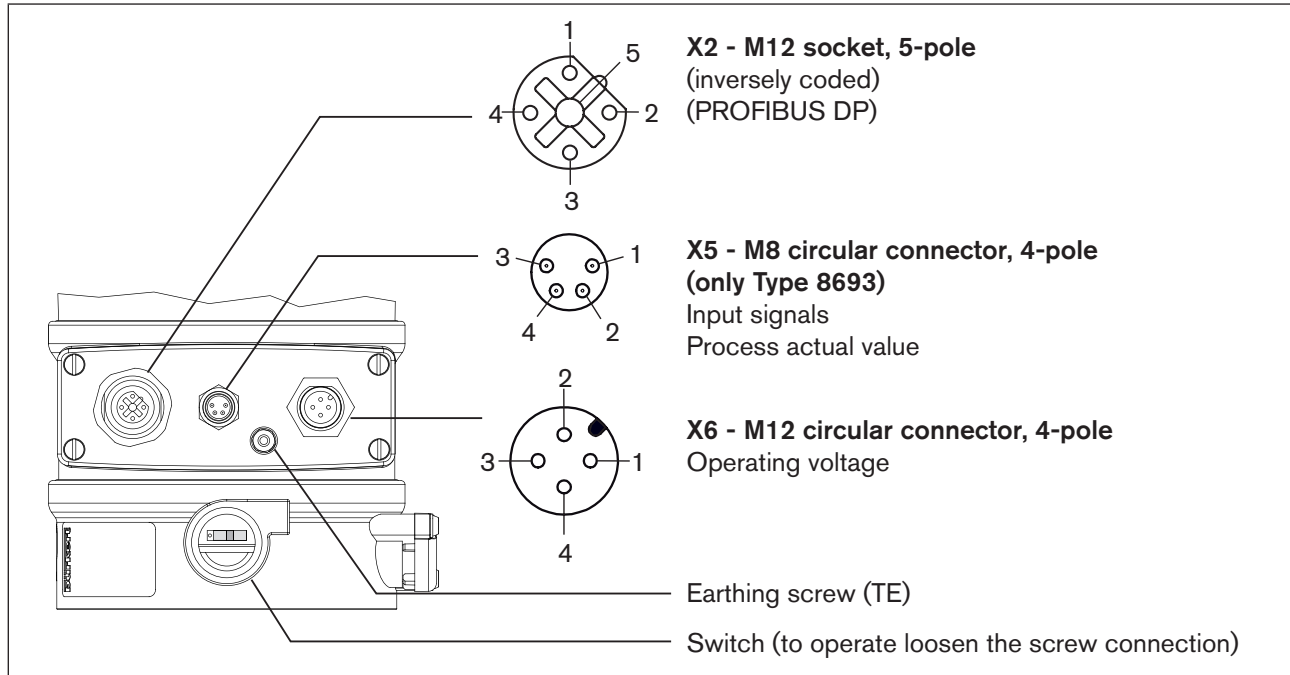

Figure 125: Electrical connection PROFIBUS DP, Type 8692/8693
On the electrical connection housing is a setscrew with nut for connection of the technical earth. (see "Figure 125: Electrical connection PROFIBUS DP, Type 8692/8693").
*** The switch is situated under the screw joint (see "Figure 125: Electrical connection PROFIBUS DP, Type 8692/8693", „).